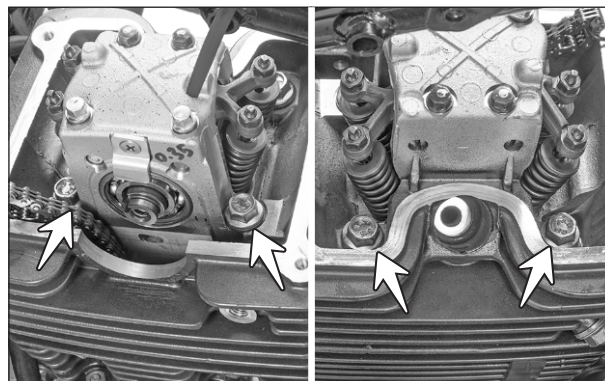

Fig. 3.41
- Remove the bolt cylinder head (4 nos.) from the mounting of cylinder head complete. (Fig. 3.41)